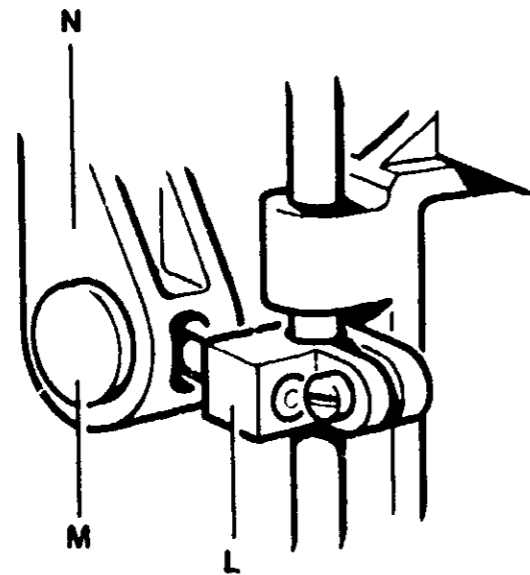

FIGURE 32
- Manually turn handwheel until take up lever is at its highest position. Insert pivot rod from block (L) (Figure 32) into the articulated joint (floating bushing) (M) in rod (N).